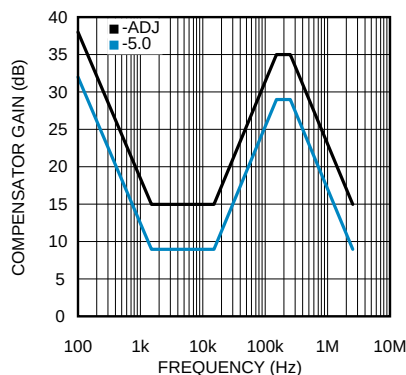

**Figure 10. Compensator Gain**
The complete transfer function for the regulator loop is found by combining the compensation and power stage transfer functions. The LM22673 has internal type III loop compensation, as detailed in Figure 10. This is the approximate "straight line" function from the FB pin to the input of the PWM modulator. The power stage transfer function consists of a dc gain and a second order pole created by the inductor and output capacitor(s). Due to the input voltage feedforward employed in the LM22673, the power stage dc gain is fixed at 20 dB. The second order pole is characterized by its resonant frequency and its quality factor (Q). For a first pass design, the product of inductance and output capacitance should conform to Equation 2.